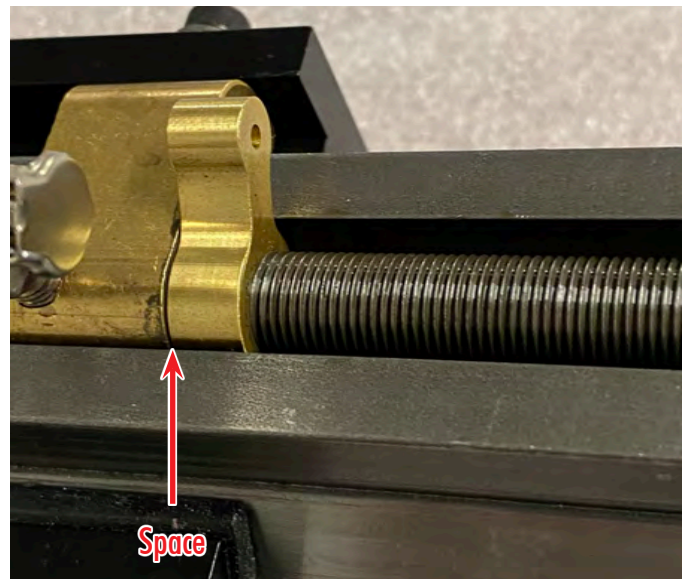

FIGURE 41
D. As you turn the leadscrew clockwise, you will feel the “lead thread” of the leadscrew “click” when it aligns with the “lead thread” of the saddle nut. Continue to turn the lead until the space between the lock and the leadscrew almost disappears. When the space is almost gone, you will feel the lead thread engage with the lead thread of the saddle nut (see Figure 41).